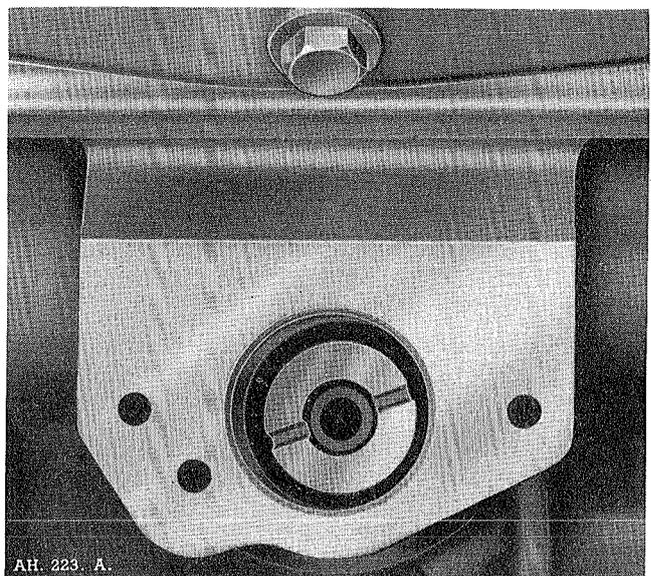

Fig. B.4. Distributor drive, showing the slot in the "Twenty-to-two" position.
- (4) Screw the $\frac{5}{16}$ in. U.N.F. bolt into the threaded end of the distributor drive and replace the drive in the block so that the centrally cut slot takes up the position shown in Fig. B.4 (*i.e.* "twenty-to-two" position).
- (5) Replace the tachometer housing, rotating the external drive dog until it mates up with the slot